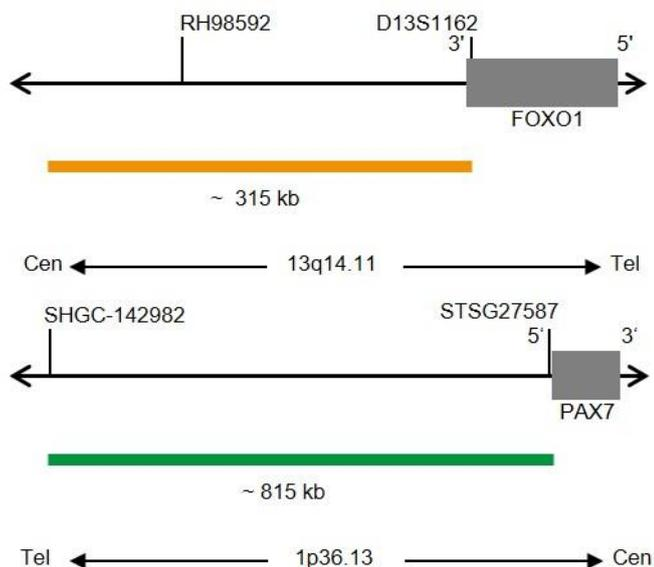

Fig. 1: Top: SPEC FOXO1 Probe map; Bottom: SPEC PAX7 Probe map (not to scale)
- ZyOrange (excitation 547 nm/emission at 572 nm) labeled polynucleotides (4.5 ng/ μ l), which target sequences mapping in 13q14.11* (chr13:40,816,168-41,132,595) harboring the FOXO1 gene (see Fig. 1).
- ZyGreen (excitation 503 nm/emission 528 nm) labeled polynucleotides (10 ng/ μ l), which target sequences mapping in 1p36.13* (chr1:18,139,970-18,956,785) harboring the PAX7 gene (see Fig. 1).